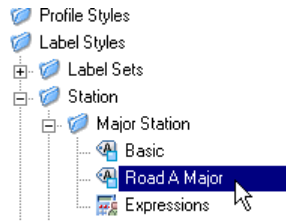

Figure 6-64 The added **Road A Major** style in the **Major Station** node
18. Choose the **OK** button to exit the **Label Style Composer - Road A Major** dialog box. The **Road A Major** label style is added in the **Major Station** node of the **Settings** tab, as shown in Figure 6-64.